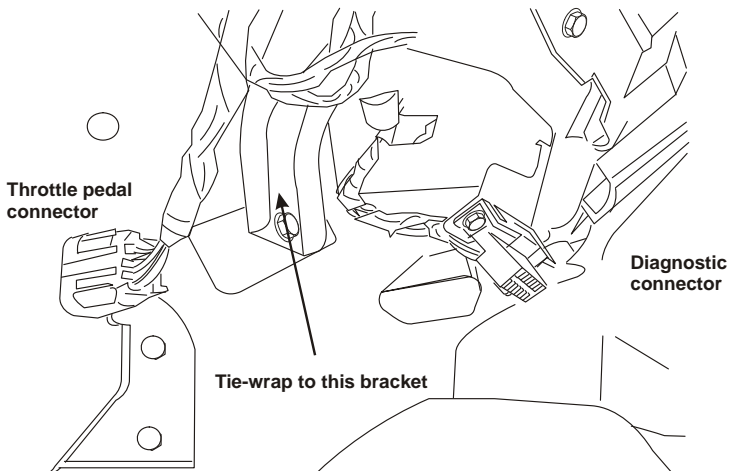

Figure 1
- Remove the dash panel below the steering column and tie-wrap the throttle control box to the dash support bracket to the right of the steering column, behind the diagnostic connector (Figure 1) with the adjusting screws facing out.